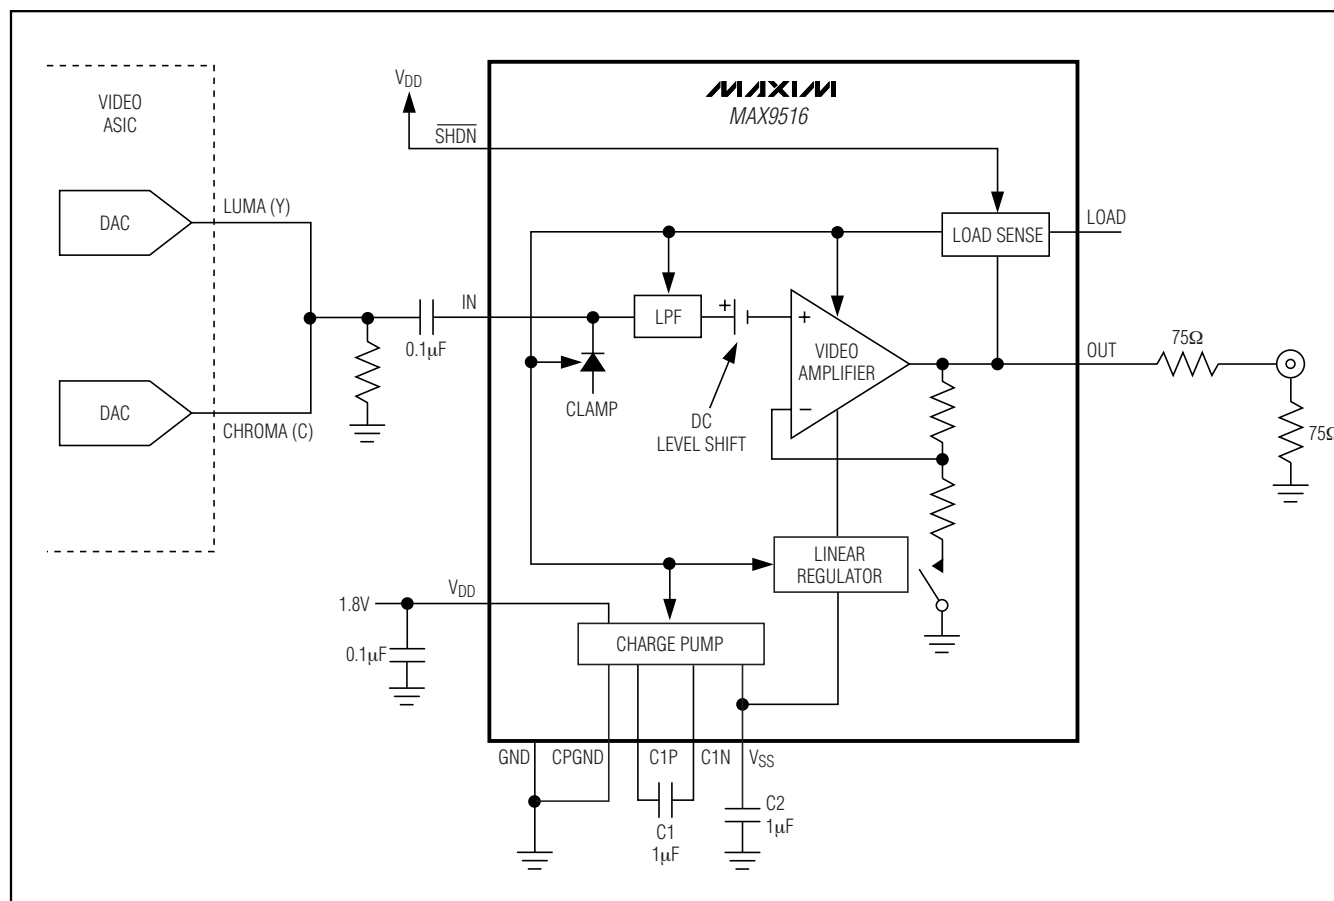

Figure 6. Luma (Y) and Chroma (C) Signals Added Together to Create Composite Video Signal (Which is AC-Coupled Into the MAX9516)
In some applications, the video source generates a signal with a positive DC voltage bias, *i.e.*, the sync tip of the signal is well above ground. Figure 6 shows an example in which the outputs of the luma (Y) DAC and the chroma (C) DAC are connected together. Since the DACs are current mode, the output currents sum together into the resistor, which converts the resulting current into a voltage representing a composite video signal.